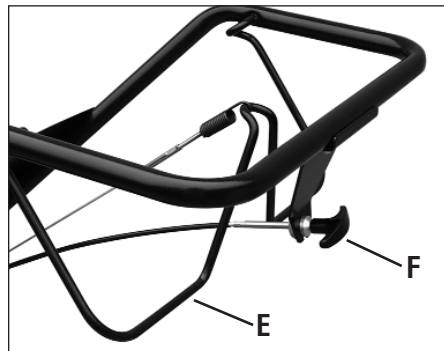

Figure 3-4: All models have a Forward Clutch Bail (E). Only Models 634F/634B have a Reverse Clutch Control (F).
The Forward Clutch Bail (E, Figure 3-4) controls the engagement of forward drive to the wheels and tines.
2. Lift and hold the clutch bail (E, Figure 3-4) against the handlebar to start the wheels and tines rotating in a forward direction.
The Reverse Clutch Control (F, Figure 3-4) controls the engagement of reverse drive to the wheels and tines. **The reversing feature is used for maneuvering the tiller only – never engage the tines in the ground while operating in reverse.**
3. Lift the handlebar until the tines clear the ground, look behind you to avoid any obstacles, and then pull the control knob (F, Figure 3-4) out. The wheels and tines will rotate in a reverse direction.